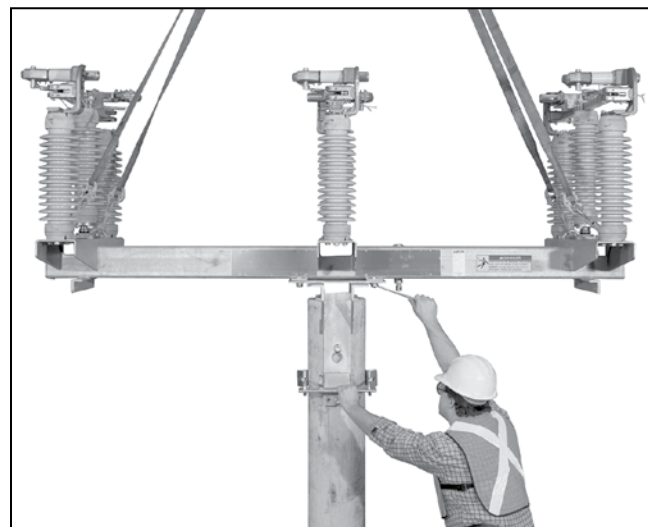

Figure 14. Bolt switch to switch-mounting bracket.
STEP 11. Bolt the switch to the switch-mounting bracket using four $\frac{5}{8}$ -11 \times $1\frac{3}{4}$ -inch galvanized steel cap screws, flat washers, lockwashers, and nuts furnished. See Figure 14.